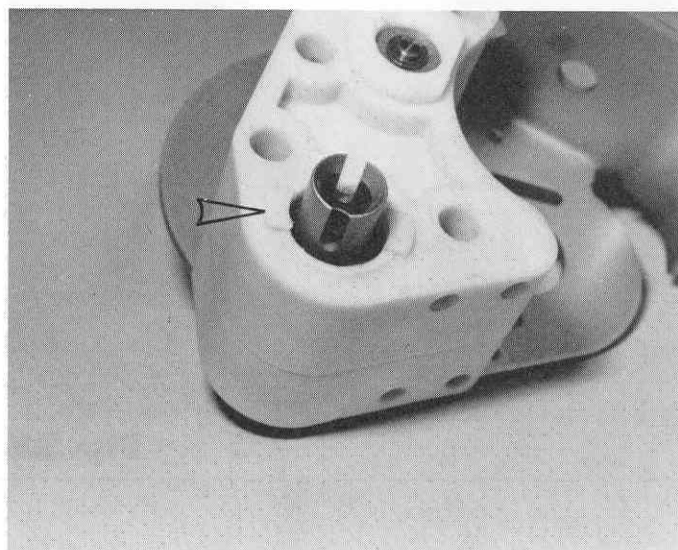

Fig. 96
□ **Fig. 96** Now push the 2 felt retainers on. They should snap in. "Ears" should be horizontal. If they're loose, use a drop of contact cement to hold them in.